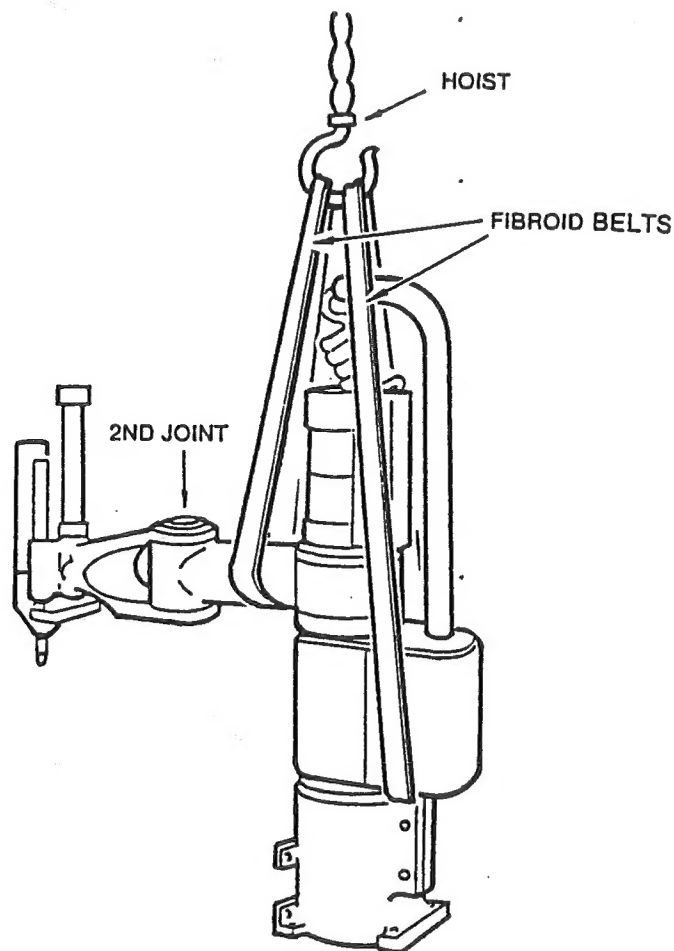

FIG. 2-3. Using a hoist
- a. As the Robot weighs approximately 32 kg (70 lbs), which can be handled by one adult, we recommend you to use a hoist when installing or working with it. (Refer to FIG. 2-3.)